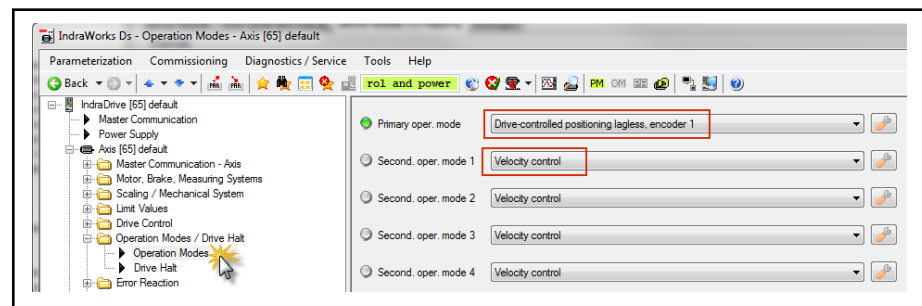

Fig. 6-88: Parameterizing operation modes using IndraWorks Ds
3. Parameterizing operation modes in IndraWorks Ds as described in fig. 6-88 "Parameterizing operation modes using IndraWorks Ds" on page 310.